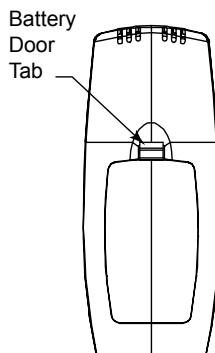

Figure 58
1. Press down the battery door tab and pull out to remove the battery door. (Figure 58)
4. When three (3) batteries are installed, the transmitter will initialize for 10 seconds and then is ready for use.
5. The batteries should be replaced at least once every six (6) months or when the low battery indicator is displayed.